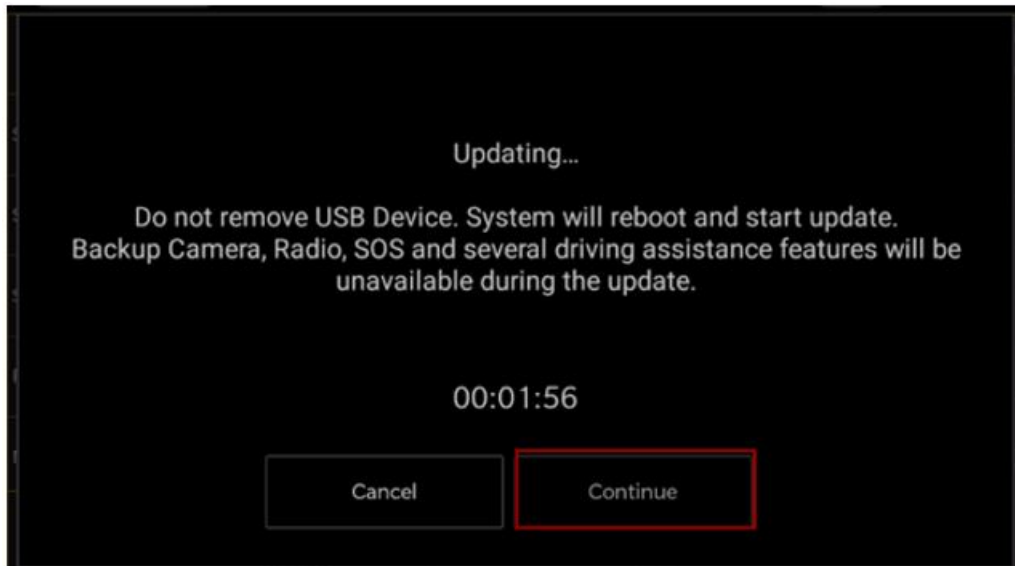

Fig. 5
12. Press the “Continue” on the display screen (Fig. 5) .